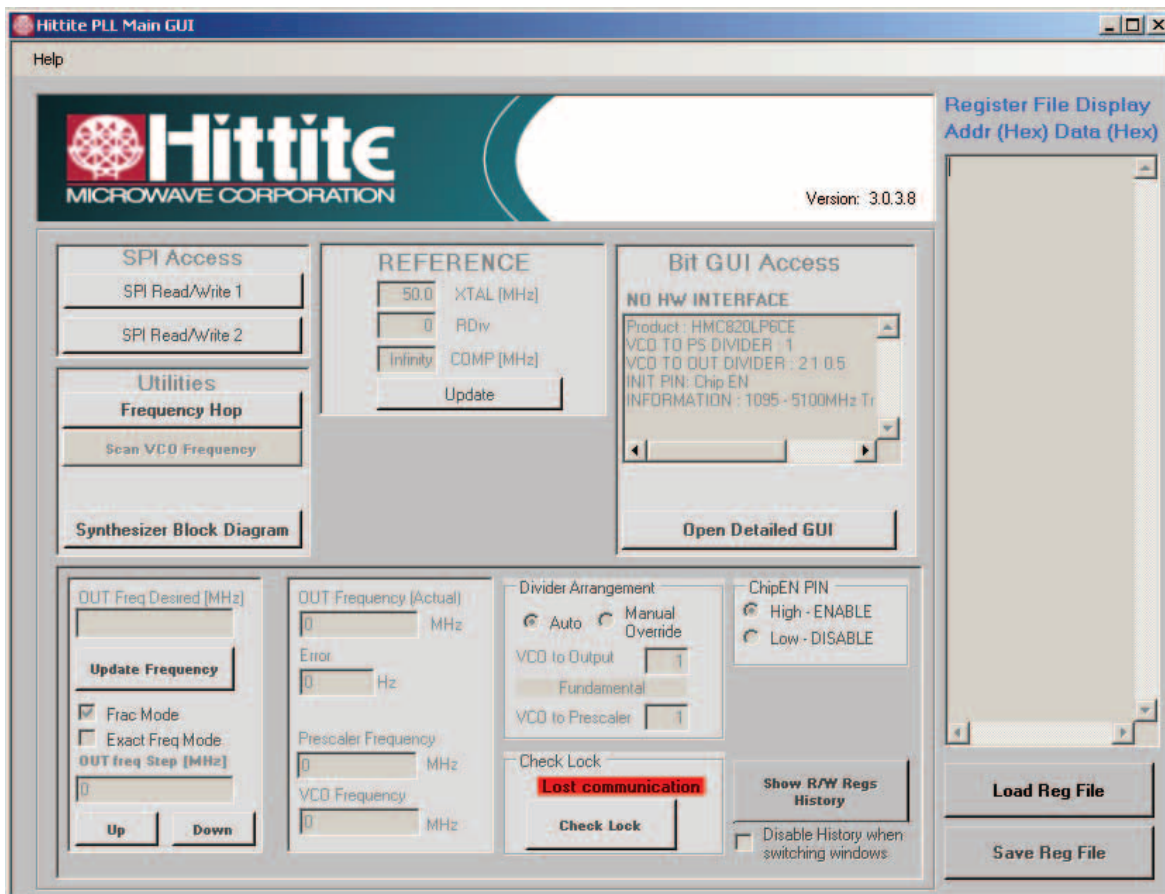

Figure 3. PLL Main Control GUI
2. Press “Done”, the Hittite PLL Evaluation Software GUI shown in Figure 3 will appear.